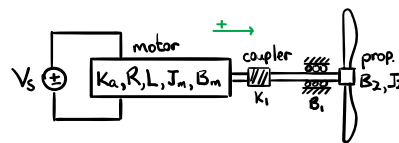

Figure exe.5: Sketch of a motor coupled to a fan.
- b. The electromechanical system of Fig. exe.5 with motor model parameters shown, coordinate arrow in green. Model the propeller as a moment of inertia J_2 and damping B_2 .